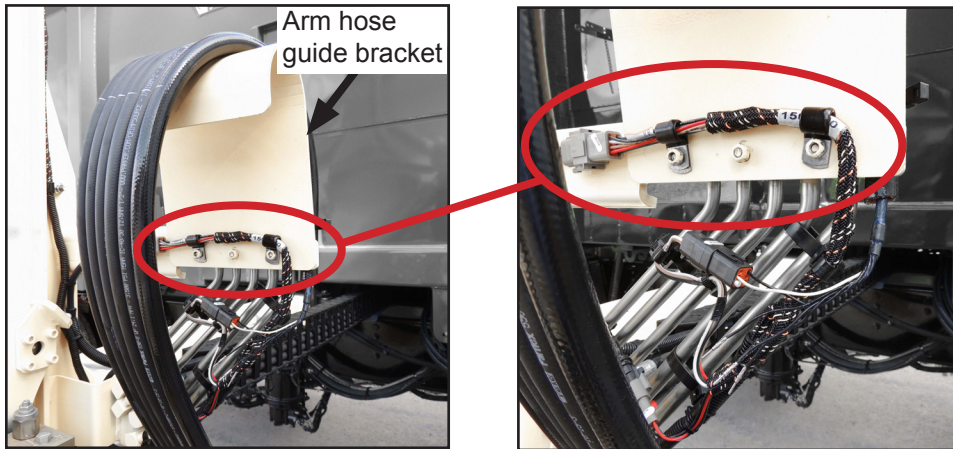

Figure 3
5. Remove the harness from the arm hose guide bracket by removing the clamps that hold the harness to the bracket (Figure 3). By doing this, the arm hose guide bracket can also be removed. Retain the bracket, clamps, and nuts.